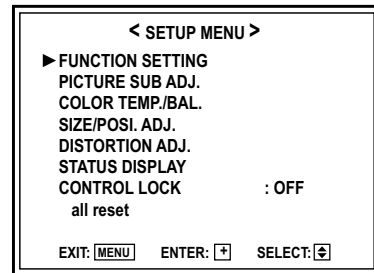

Fig. 1
- (1) While holding down the  key, press the **VOL -** () key.
- (2) The SETUP MENU appears (Fig. 1).
- (3) Check the items in the SETUP MENU by comparing them with the data in the table on page DIS-6.